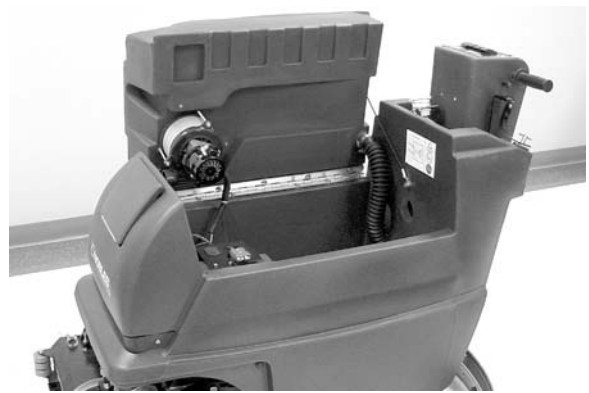

FIG. 1
- Hinge open recovery tank to access battery compartment. Make sure recovery tank is drained before opening (Figure 1).